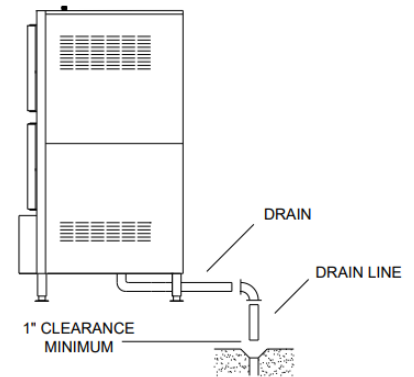

Figure 3-10
3. Free air venting requires a minimum 1" clearance between the end of the drain line and the top of the floor drain. See Figure 3-10.